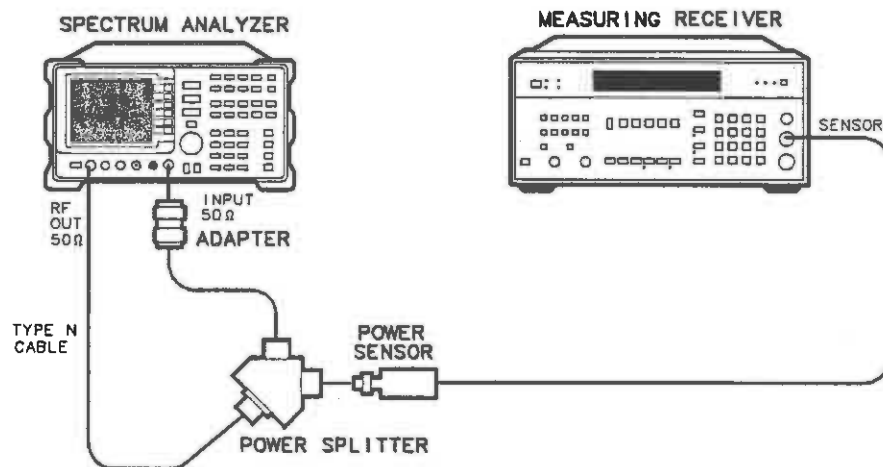

Figure 3-28. Power Sweep Range Test Setup
1. Connect the equipment as shown in Figure 3-28. Do not connect the power sensor to the power splitter at this time.
5. Zero and calibrate the measuring receiver and power sensor combination in log mode (for power level readouts in dBm). Enter the power sensor's 300 MHz cal factor into the measuring receiver. Connect the power sensor to the power splitter as shown in Figure 3-28.